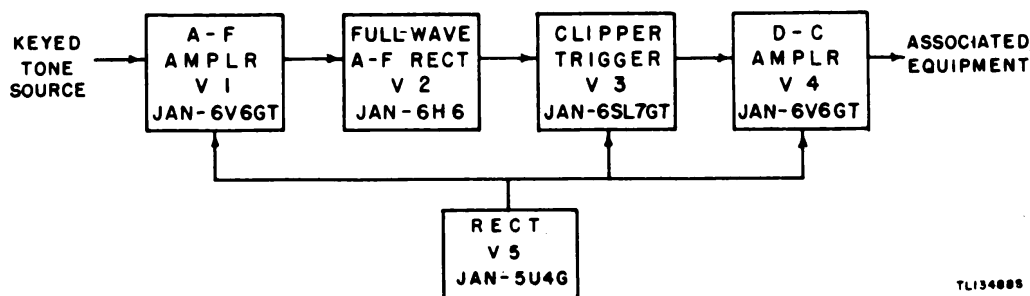

Figure 11. Keyer KY-7/FRT, block diagram.
b. The keyed audio tone is amplified in the a-f amplifier (fig. 11) and then rectified in the a-f rectifier to produce d-c pulses having the same time constants as the input tone signals consisting of marks and spaces. These pulses are then peak-leveled in the clipper-trigger tube and operate the d-c amplifier tube which provides output directly or through a polarized keying relay.
- (1) Block diagram of Keyer KY-7/FRT (fig. 11).